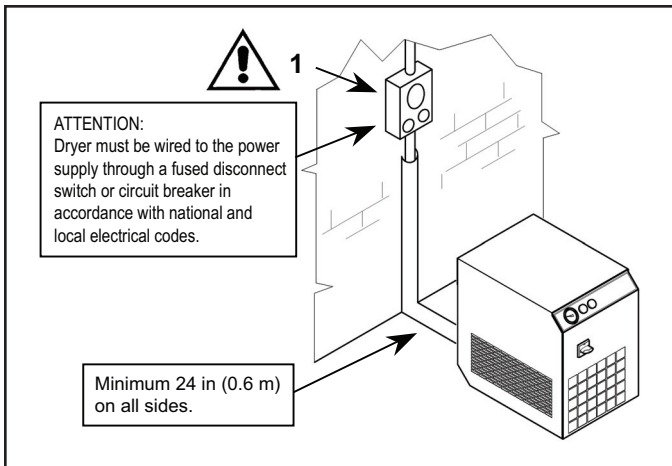

FIGURE 5 — INSTALLATION
1. Ensure that there is sufficient space around the machine to allow maintenance (see Fig. 5).
3. Dryer must be wired to the power supply through a fused disconnect switch or circuit breaker in accordance with national and local electrical codes to protect against overcurrents, with ground-fault circuit interrupter protection, if required by local codes (see Figure 5).